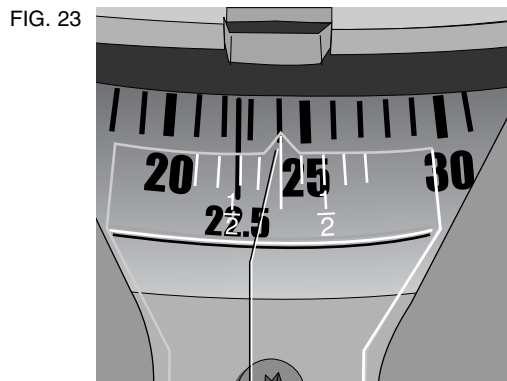

FIG. 23
VERNIER SCALE (FIG. 23, 24)
2. Set the miter angle to the nearest whole degree desired by aligning the center mark in the vernier scale, shown in Figure 23, with the whole degree number etched in
the miter scale. Examine Figure 23 closely; the setting shown is 24° right miter.